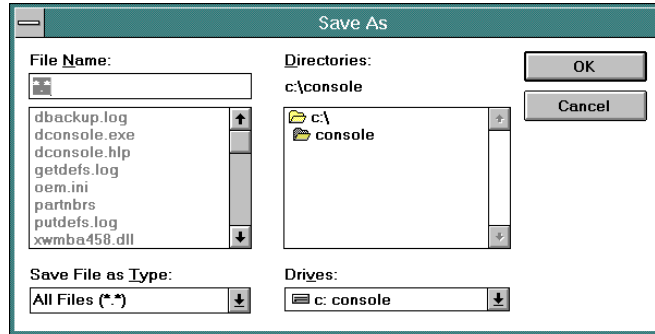

Figure 82. Save As Dialog Box
- If required, click the *Print to file* button at the *Command List - Operational Status* dialog box to save the status of the command list execution to a file. The *Save As* dialog box appears (Figure 82). The dialog box allows the operator to specify the file name, file type, and location (diskette or Console fixed disk) under which to save the command list status.